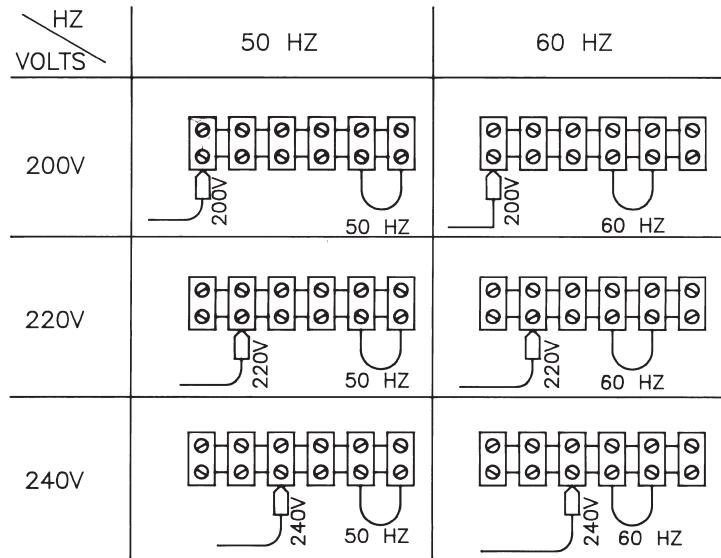

Figure 3-2 Linkboard Connections
4. Use a screwdriver to move the voltage (U1) wire to the position indicating the primary line voltage. See Figure 3-2.